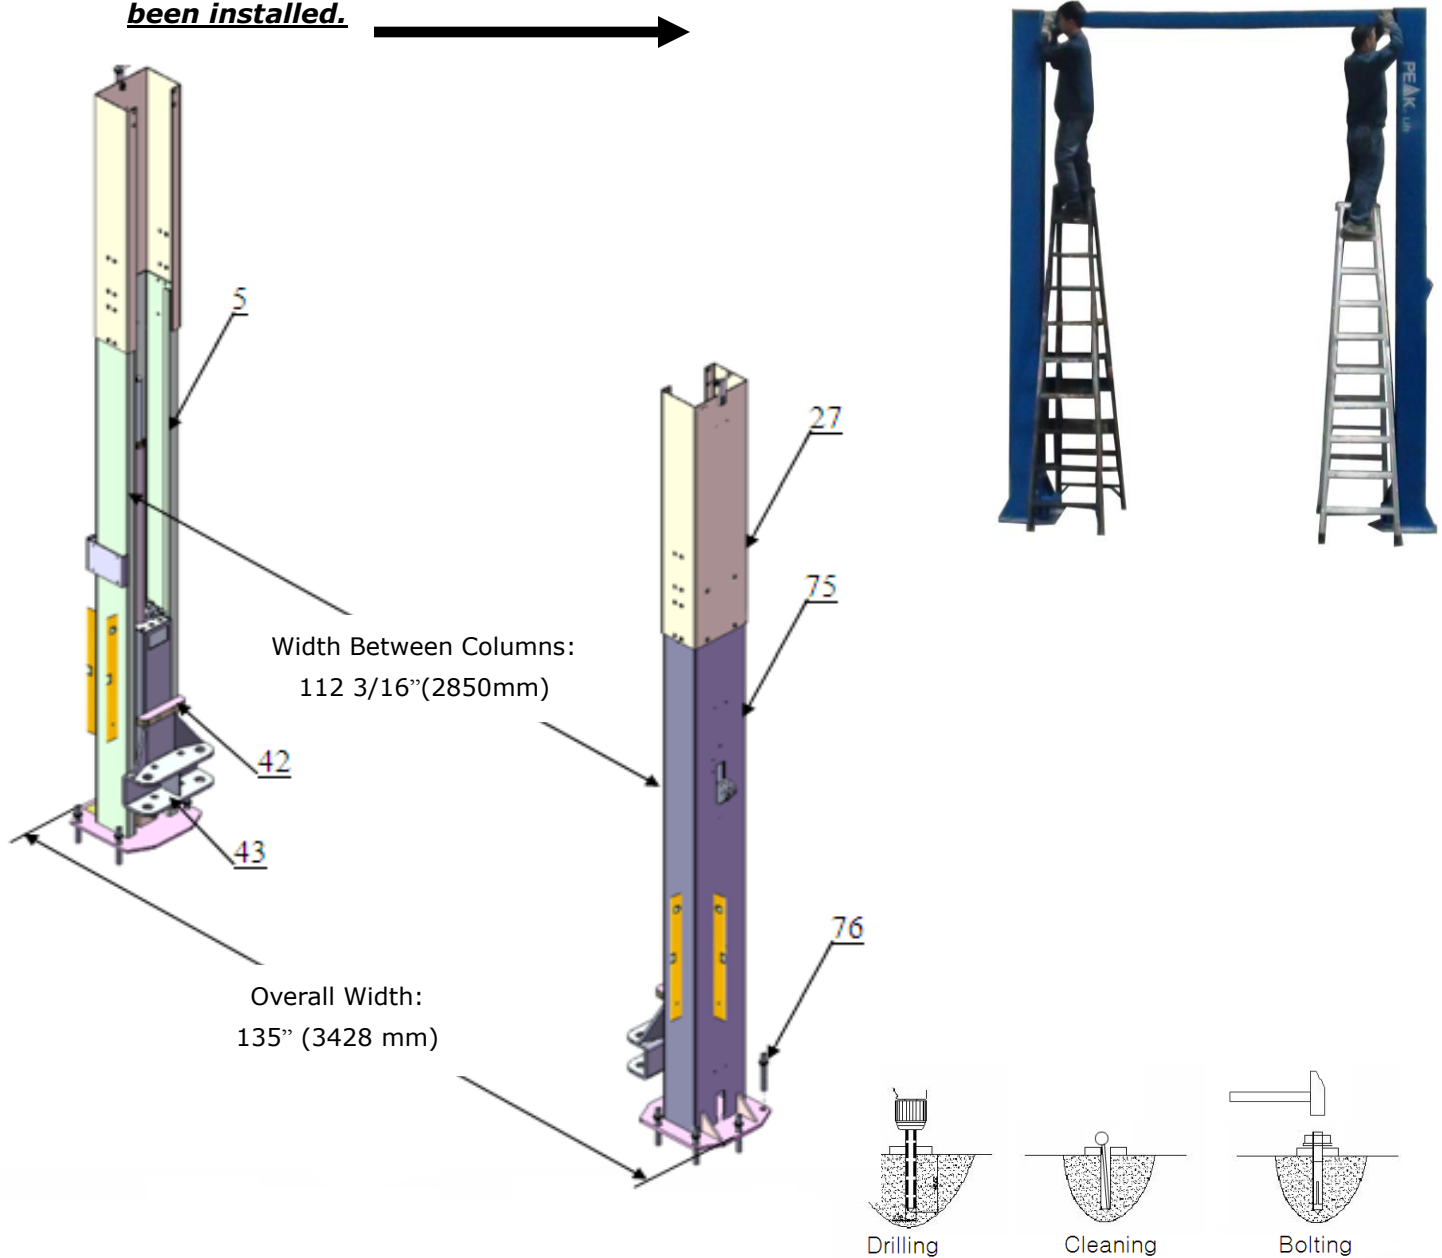

Fig. 16
F. Position posts (See Fig. 16)